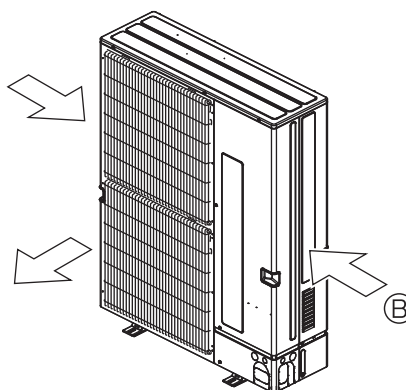

Fig. 12-1-2b
- ② Position the unit so that the air outlet blows perpendicularly to the seasonal wind direction, if possible. (Fig. 12-1-2b, d)